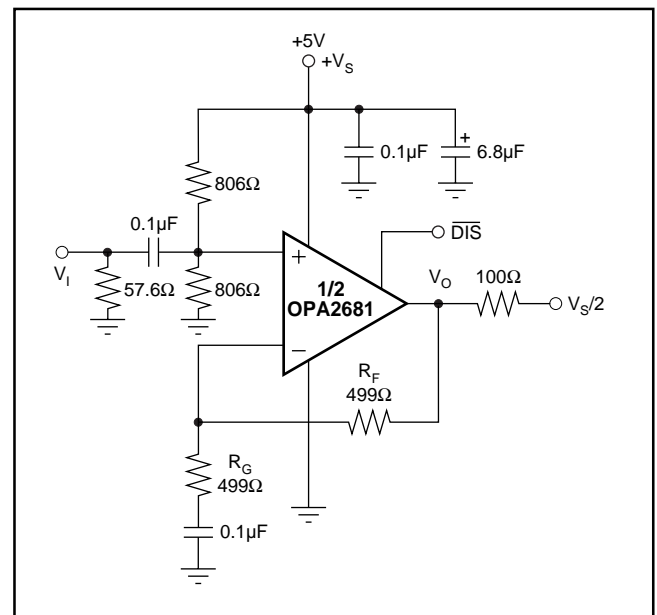

FIGURE 2. AC-Coupled, G = +2, Single Supply Specification and Test Circuit.
$G = +2$ ,  $R_F = 499\Omega$ ,  $R_L = 100\Omega$  to  $+2.5V$ , unless otherwise noted (see Figure 2).
Figure 2 shows the AC coupled, gain of +2, single supply circuit configuration used as the basis of the +5V Specifications and Typical Performance Curves. Though not a “rail-to-rail” design, the OPA2681 requires minimal input and output voltage headroom compared to other very wideband current feedback op amps. It will deliver a 3Vp-p output swing on a single +5V supply with greater than 150MHz bandwidth. The key requirement of broadband single supply operation is to maintain input and output signal swings within the usable voltage ranges at both the input and the output. The circuit of Figure 2 establishes an input midpoint bias using a simple resistive divider from the +5V supply (two 806Ω resistors). The input signal is then AC coupled into this midpoint voltage bias. The input voltage can swing to within 1.5V of either supply pin, giving a 2Vp-p input signal range centered between the supply pins. The input impedance matching resistor (57.6Ω) used for testing is adjusted to give a 50Ω input match when the parallel combination of the biasing divider network is included. The gain resistor (RG) is AC coupled, giving the circuit a DC gain of +1—which puts the input DC bias voltage (2.5V) on the output as well. The feedback resistor value has been adjusted from the bipolar supply condition to re-optimize for a flat frequency response in +5V, gain of +2, operation (see Setting Resistor Values to Optimize Bandwidth). Again, on a single +5V supply, the output voltage can swing to within 1V of either supply pin while delivering more than 75mA output current. A demanding 100Ω load to a midpoint bias is used in this characterization circuit. The new output stage used in the OPA2681 can deliver large bipolar output currents into this midpoint load with minimal crossover distortion, as shown by the +5V supply, 3rd harmonic distortion plots.